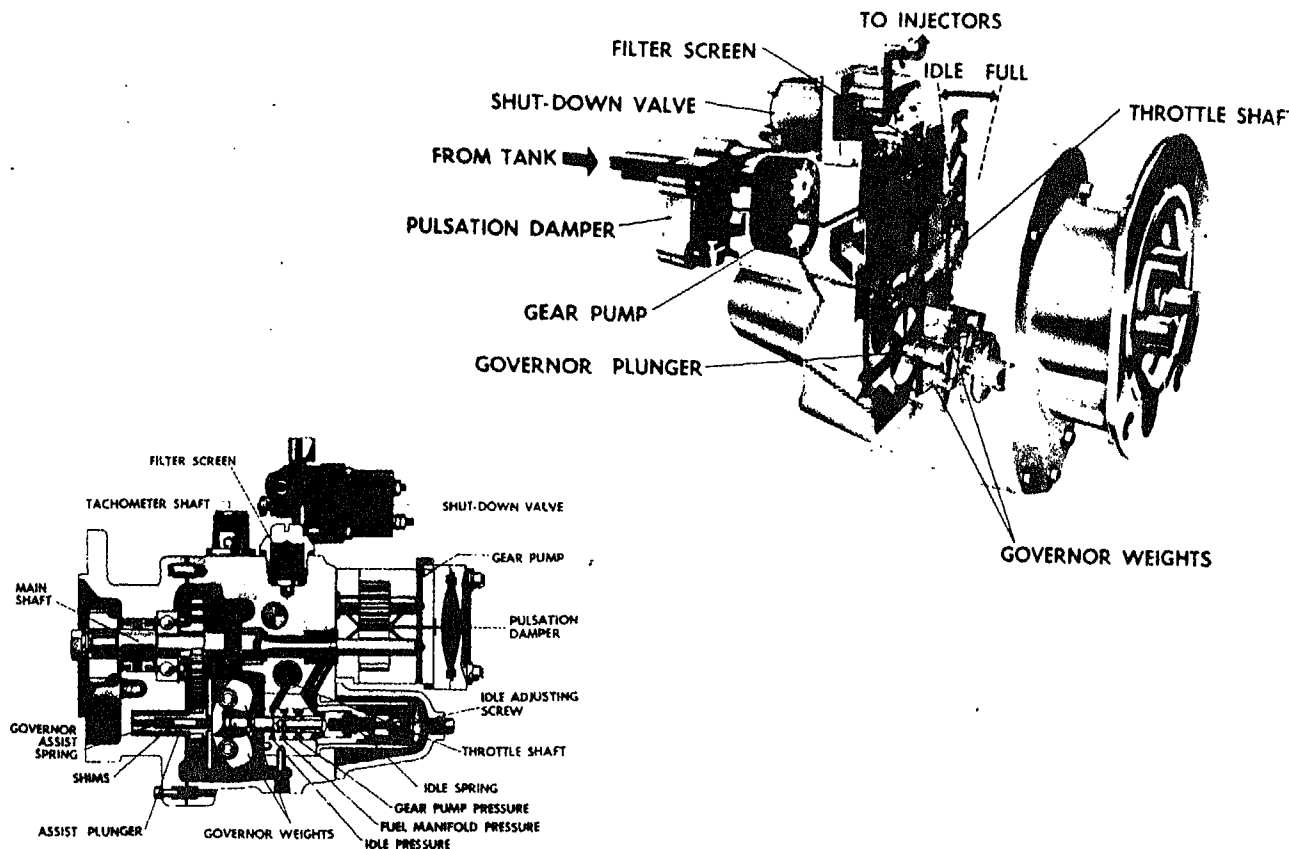

Fig. 501-2 PT (type G) fuel pump cross-section and fuel flow
- The location of fuel pump components is indicated in Figure 501-2.
the PT (type G) fuel pump, to the governor assembly shown in Fig. 501-2.